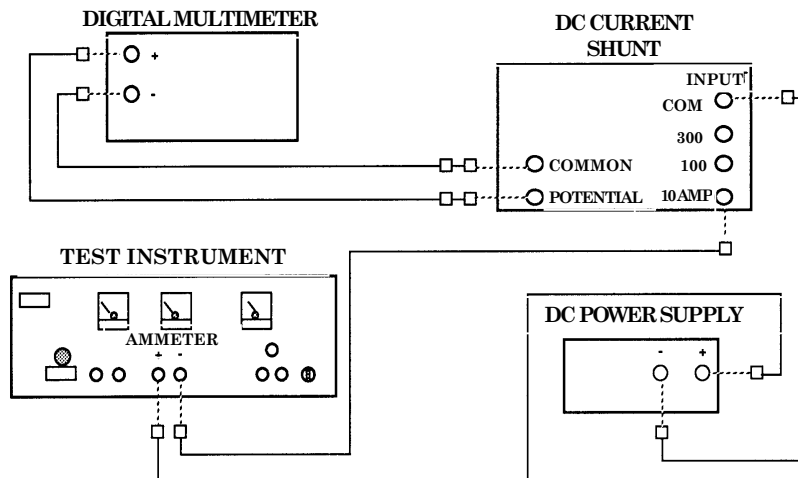

Figure 1. Dc current - equipment setup.
- (1) Connect equipment as shown in figure 1. Position dc current shunt range plugs to **10**.
- (2) Set TI **AMMETER HEATER/OFF/EXTERNAL MODE** switch to **EXTERNAL MODE**.
- (3) Adjust dc power supply controls for a TI **AMMETER** indication of 5 A. Digital multimeter will indicate between 42.50 and 57.50 mV dc.